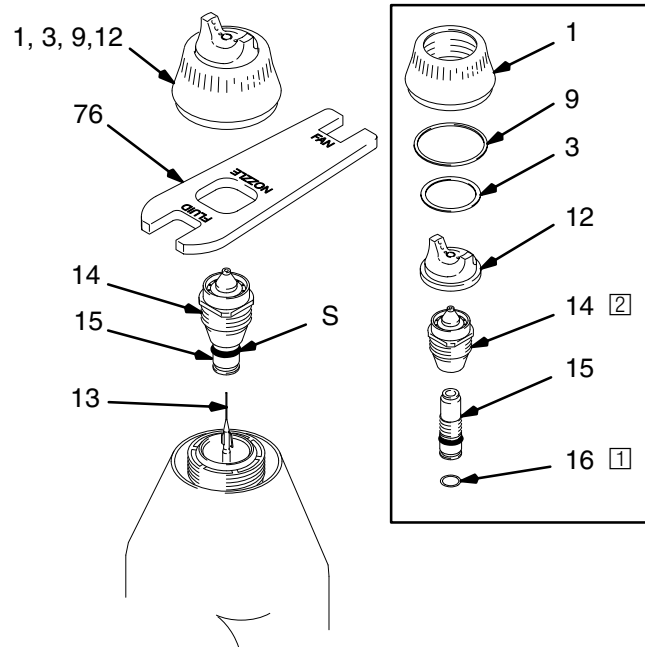

Fig. 20
2. Point the front end of the gun up while removing the air cap assembly (1, 3, 9, 12). See Fig. 20.
The resistor stud contact ring (S) is a conductive contact ring, not a sealing o-ring. See Fig. 20. To reduce the risk of sparking, which could cause a fire, explosion, or electric shock, **do not** remove the contact ring (S) from the resistor stud or operate the gun without the contact ring in place. If the resistor stud (15) is being replaced, only use a genuine Graco part.
5. Lightly lubricate the o-ring (16) with petroleum jelly and install it on the resistor stud (15). See Fig. 20.
- 1 Apply a very light coat of lubricant to the o-ring (16).
- 2 Tighten the nozzle (14) hand-tight, then 1/8 to 1/4 turn more.
8. Install the fluid nozzle (14) and resistor stud (15) assembly with the nozzle wrench (76). See Fig. 20. Tighten until the fluid nozzle seats in the gun barrel (1/8 to 1/4 turn past hand-tight).
9. Carefully install the air cap (12). Avoid bending the electrode wire (13) and be sure to insert the electrode wire through the center air cap hole. Rotate the air cap horns to the desired position.
10. Make sure the o-ring (9) is in place on the retaining ring (1). Tighten the air cap retaining ring (1) until the air cap is held firmly in place; you should not be able to rotate the air cap horns by hand.